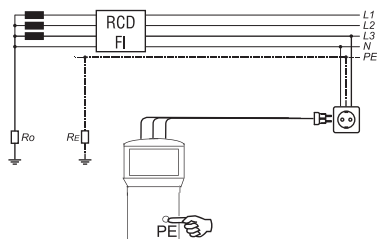
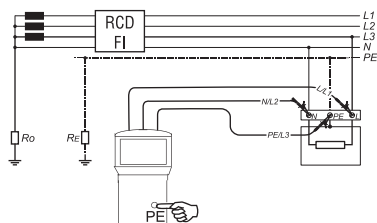

Figure 5.7.3: RCD test connection, test using a shockproof plug
Figure 5.7.4: RCD test connection, test using a test lead
- ▶ Now connect the test leads to the UUT; please refer to Figure 5.7.3 or Figure 5.7.4 for connection.